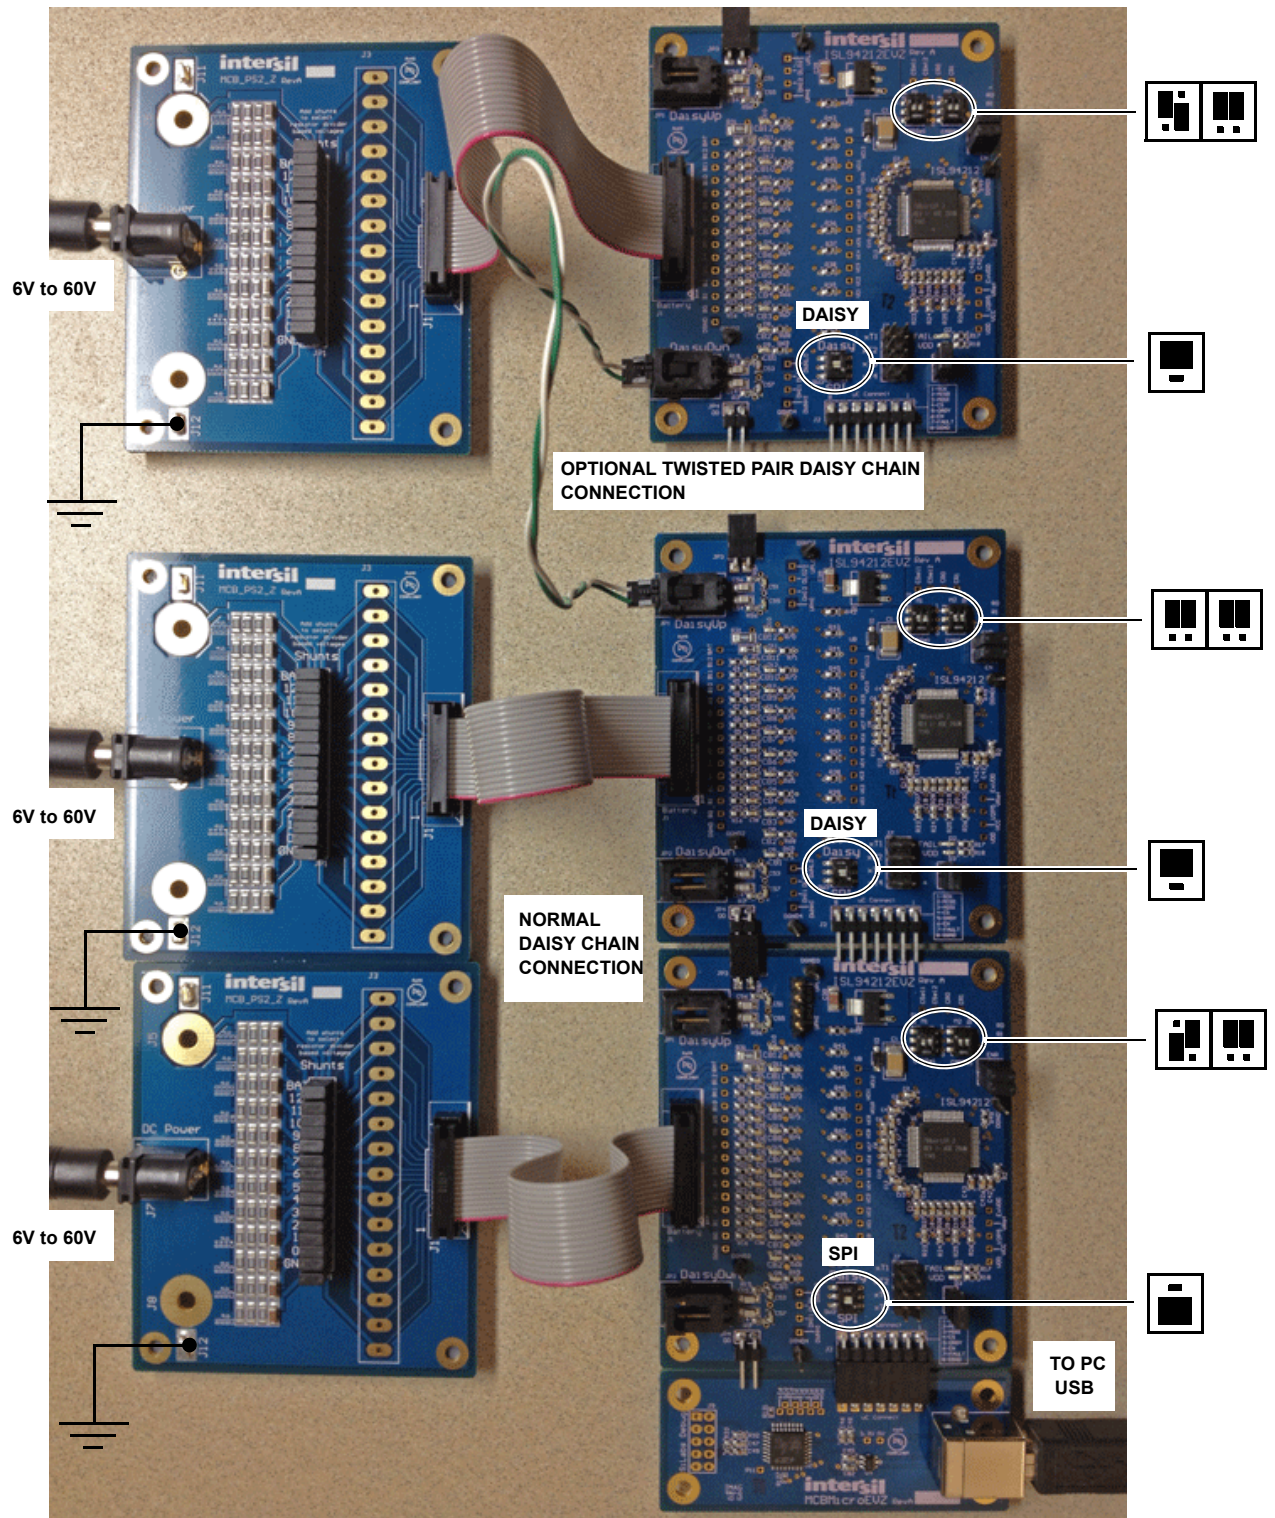
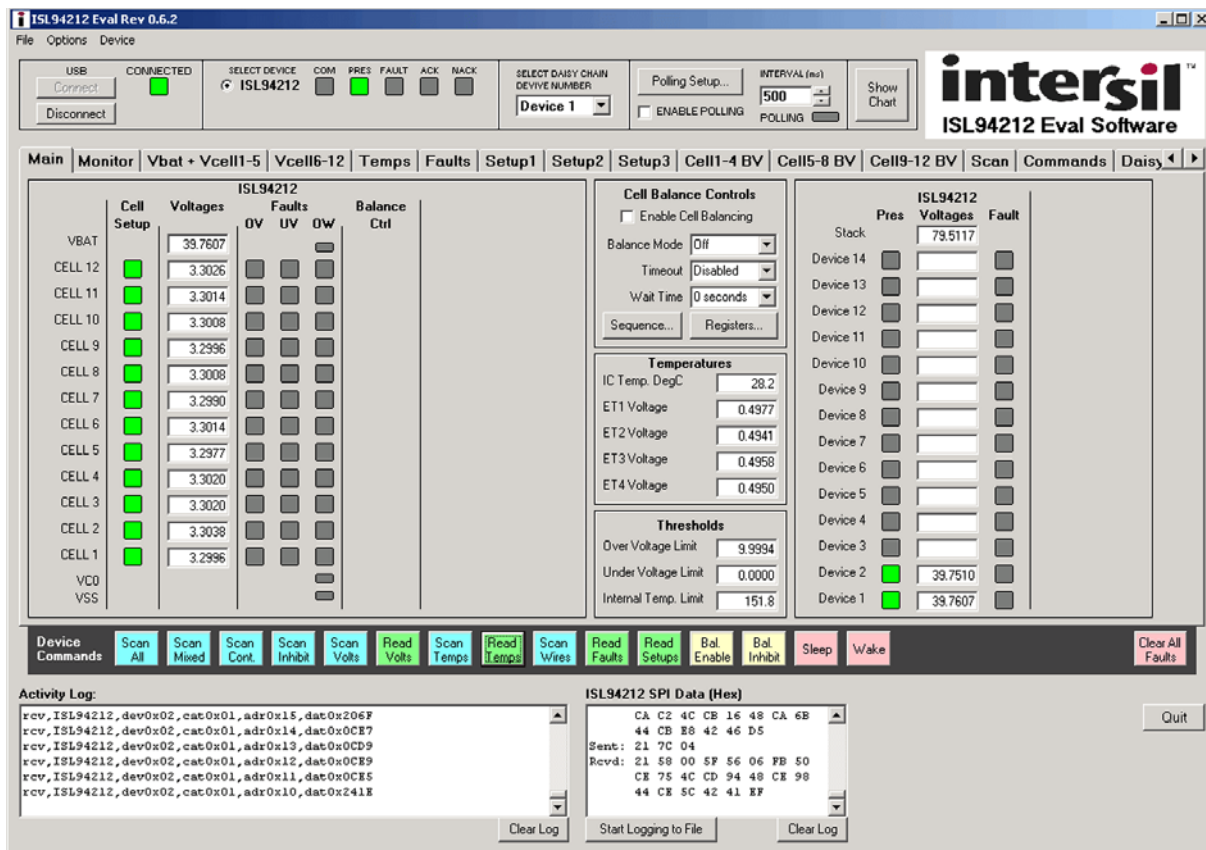

FIGURE 5. ISL94212EVZ IN 36-CELL DAISY CHAIN CONFIGURATION (SHOWN 1 ISL94212EVKIT1Z (MASTER) AND 2 ISL94212EV1Z (SLAVES))
FIGURE 6. MAIN GUI WINDOW - TWO CASCADED DEVICES
Step 2: Connect the MCB_MICRO_EVZ board (J1) to the Master ISL94212EVZ board (J2). (See Figure 5)
The boards can plug together to complete the daisy chain connections, or the enclosed twisted pair cable can connect the boards. Connect as shown in Table 2. See also the 36-cell daisy chain connection Figure 5 on page 7. For a 24-cell connection, drop out the Middle board.
- Step 3: The GUI program identifies the devices connected, either in a single board, or a daisy chain configuration, (See Figure 6). NOTE: Figure 5 on page 7 shows the daisy chain configuration.